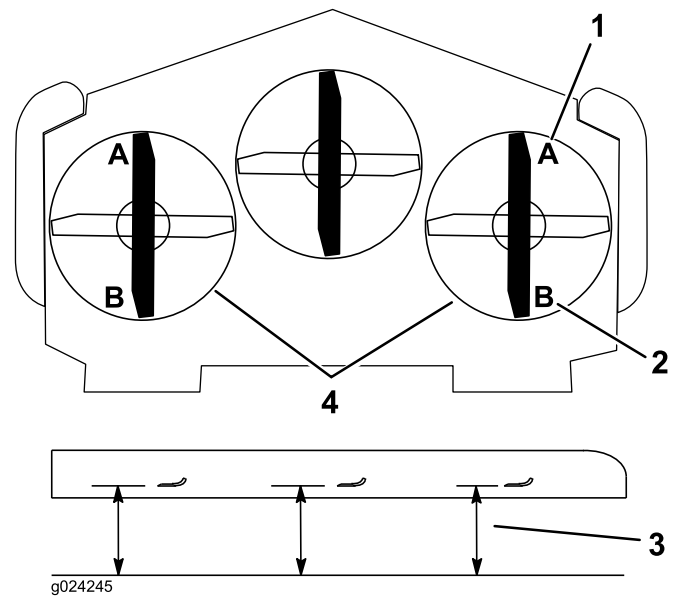

Figure 91
8. On both sides of the deck, measure from the level surface to the front tip of the blade (position A) as shown in Figure 91.
14. On both sides of the deck, measure from the level surface to the back tip of the blade (position B). Ensure the measurement is 8.3 cm (3-1/4 inches) (Figure 91).